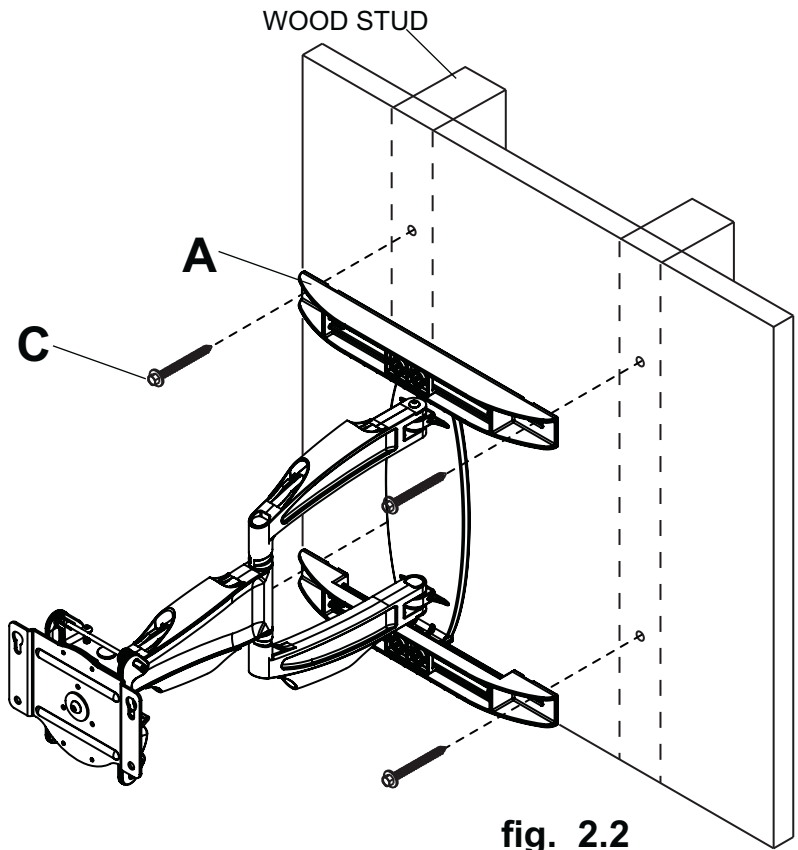

fig. 2.2
**2** Using a stud finder, locate and mark the edges of the wood studs. Use of an edge to edge stud finder is highly recommended. Use a level to draw a vertical line down the center of each stud. Level wall plate template on wall and mark center of four mounting holes in center of each wood stud. Top mounting holes should be located "X" above desired screen center as shown in figure 2.1, according to chart 1 below. Drill four 3/16" (5 mm) dia. pilot holes to a depth of 3" (76 mm). Attach wall arm (A) to wall using four wood screws (C) as shown in fig. 2.2. Level wall plate then tighten all fasteners.